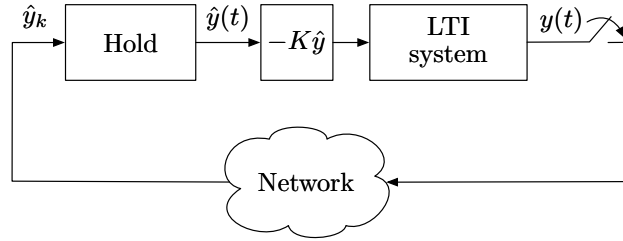

Figure 1: Networked control system
1. **Stabilizing state-feedback design.** Consider the NCS in Figure 1,